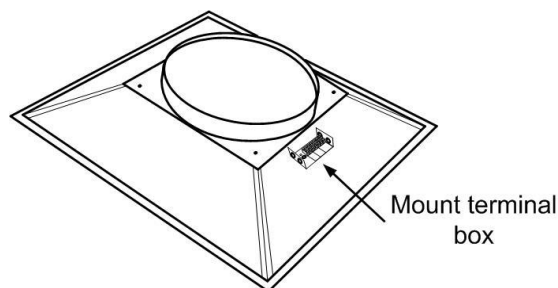

Fig. 3
4. Position the terminal box over the 5/16" hole in the top of the housing (see Fig. 3).